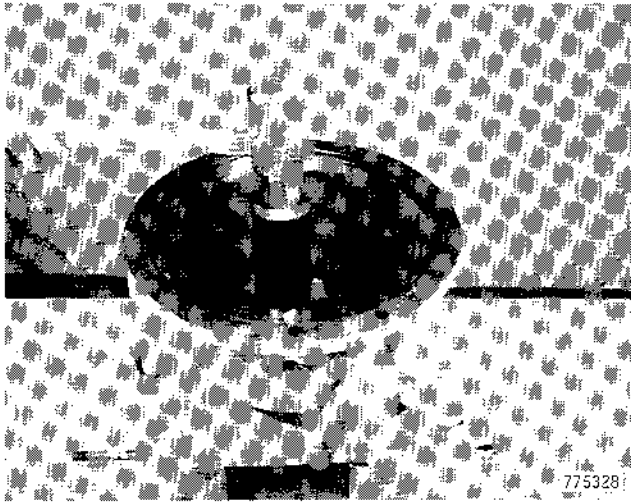

Figure 52
47. If needle bearings are to be replaced, drive bearings out of housing using a suitable driver, Figure 52.